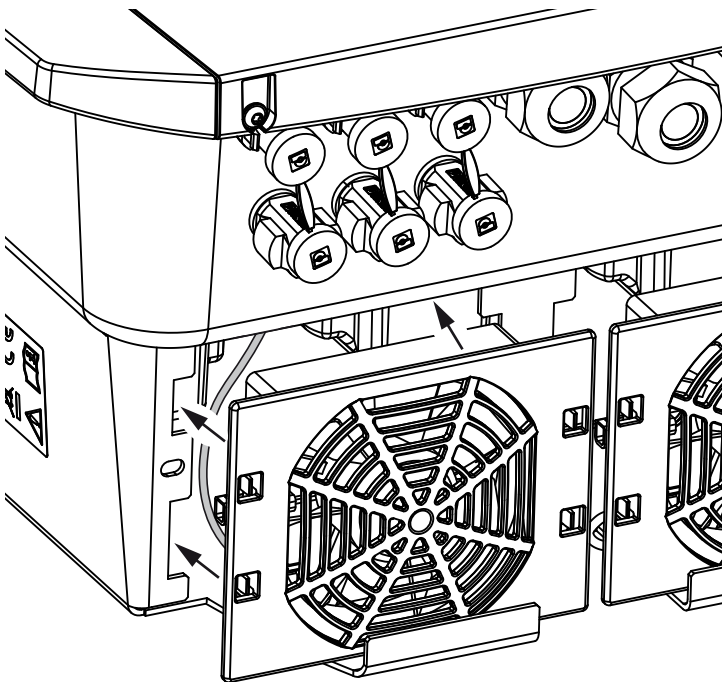

Fig. 73: Fan installation
- the fan must be correctly installed in the fan frame (air flow direction).  **Fig. 73**